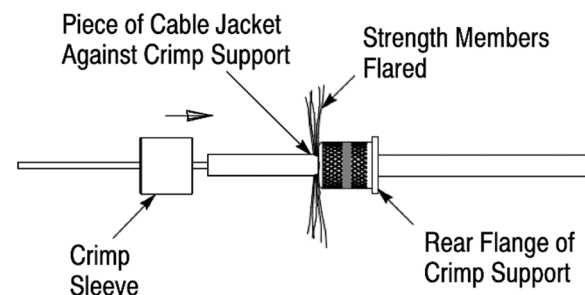

Figure 4
1. Apply a continuous bead of the Loctite 480 instant adhesive around the cable jacket between 4 and 5 mm from the stripped end of the jacket. See Figure 4, Detail A.
2. Rotate and slide the crimp support (large diameter end first) over the fibers and strength members and onto the jacket until it bottoms. See Figure 4, Detail B.
3. Apply a thin band of the instant adhesive around the knurled portion of the crimp support. Make sure that the band is continuous around the entire circumference. See Figure 4, Detail C.
4. Slide the piece of cable jacket (stripped from the jacket in Paragraph 5.1) over the buffered fiber and into the center of the strength members until it bottoms against the crimp support and the strength members are flared away from the fiber. See Figure 4, Details D and E.
5. Slide the crimp sleeve over the fiber and the piece of cable jacket so that the strength members fold back evenly around and over the crimp support until it bottoms on the rear flange of the crimp support. **This step should be performed quickly before the adhesive begins to harden.** See Figure 4, Detail E.